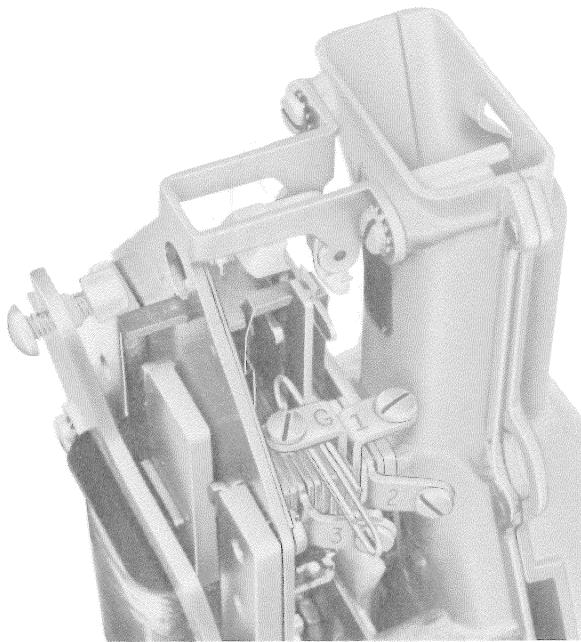

Fig. 41—Method of Strapping Ground Around Ground Contacts on Coin Relay
- (1) Provide ground on line by inserting paper clip or equivalent between ground terminal and spring pile-up of No. 4 spring (Fig. 41).